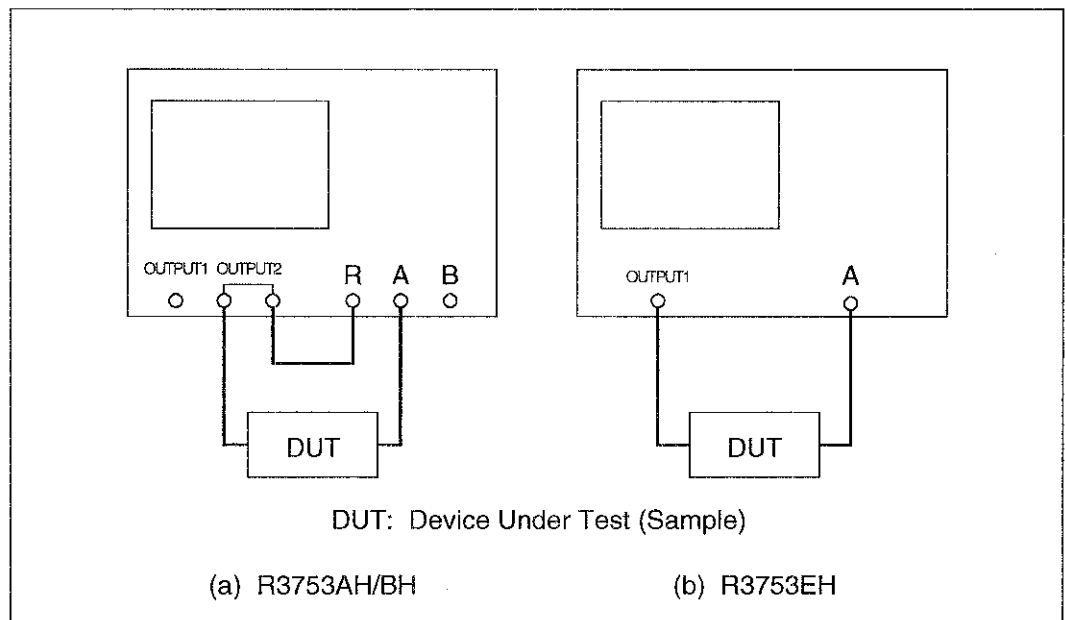

Figure 3-2 Setup (Connection of DUT)
In the case of R3753AH/BH, the filter is connected between the OUTPUT2 connector and INPUT A connector (Refer to Figure 3-2 (a)) by the cables.
In the case of R3753EH, the filter is connected between the OUTPUT1 connector and INPUT A connector (Refer to Figure 3-2 (b)) by the cables.
- ① Setup (filter connection) and presetting (Refer to sub-section 3.1.2 and Figure 3-2).
- ② The measurement format is made a magnitude (Logarithmic display).
- ② The measurement format is made a phase display.